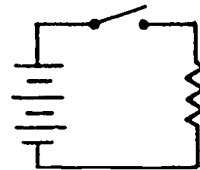

Figure 3.
- 1. In figure 3, there is a complete path for current flow.
- 2. In figure 3, if the switch is closed there will be a complete path for current flow.
- 3. Figure 3 shows a complete circuit of a switch, conductor, resistor, and a generator.